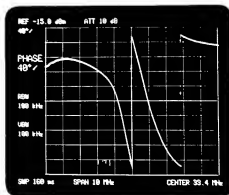

Fig. 7-6 Filter's phase response
- 8 Connect the device under test (filter) to the measuring setup to observe its phase response (Figure 7-6).